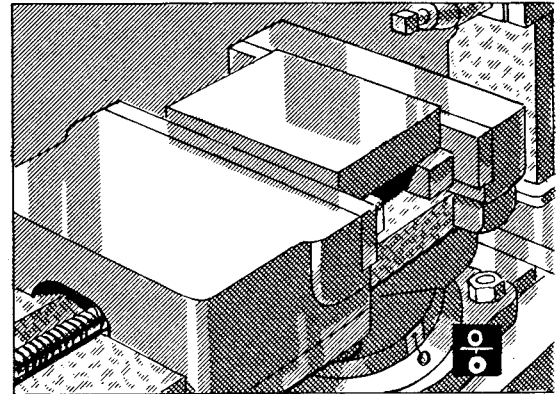

FIG. 467
1. Set the vise at 90° to the direction of the stroke. The zero mark on the vise will coincide with the zero mark on the base (Fig. 467).